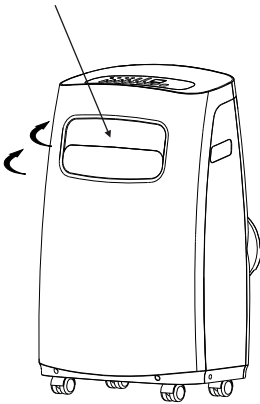

Fig.4
• **Adjust the air flow direction automatically (Fig.4):**